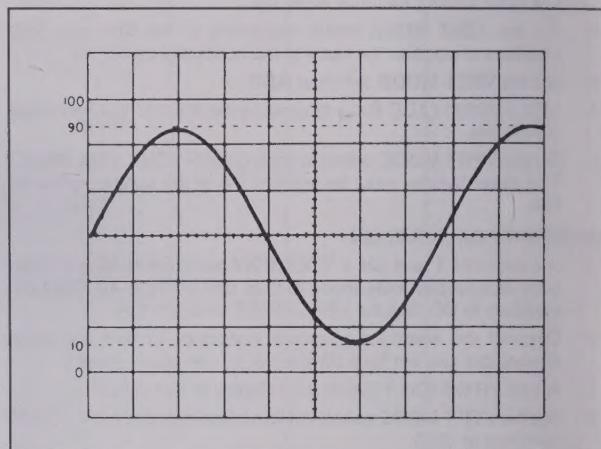

Fig. 4. Adjusting Trigger Point
5. Adjust VR403 (TRIG BAL) until the signal waveform has a steady and inverse waveform on the CRT screen when the operation is switched between **+ SLOPE** and **- SLOPE**. (See example in Figs. 4 & 5)